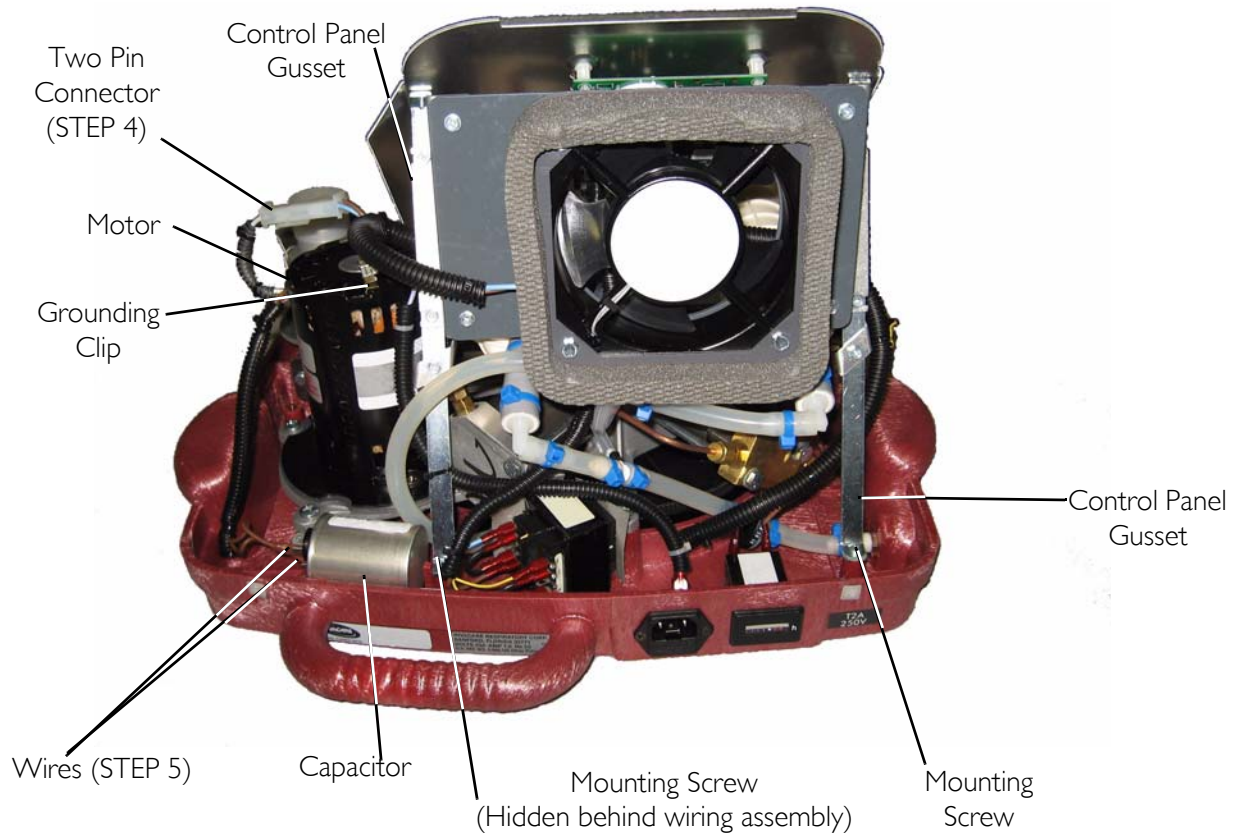
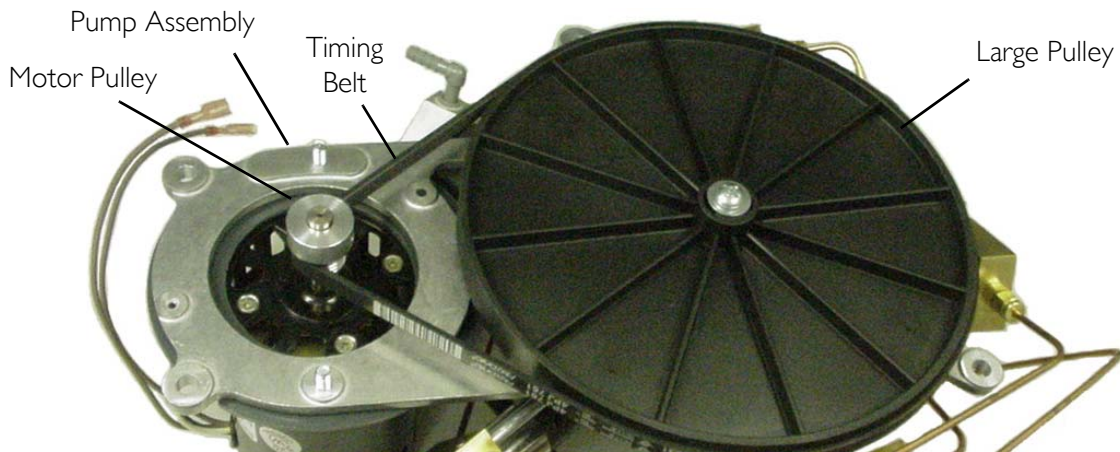

FIGURE 12.1 Timing Belt Replacement
FIGURE 12.6 Timing Belt Replacement
NOTE: For this procedure, refer to FIGURE 12.1 through FIGURE 12.6.
5. Disconnect the two pin connector that connects the motor to the wiring harness (FIGURE 12.1).
6. Using needle nose pliers, disconnect the two wires from the capacitor (FIGURE 12.1).
7. Using needle nose pliers, disconnect the grounding clip from the motor (FIGURE 12.1).
11. Remove the two screws that secure the control panel gussets to the rear of the base assembly (FIGURE 12.1).
25. Remove the timing belt by gently pulling the belt away from the large pulley and motor pulley (FIGURE 12.6).
1. Install new belt over the large pulley and the small motor pulley. Refer to Detail "A" in FIGURE 12.6.
14. Secure the control panel gussets to the rear of the base assembly with two mounting screws (FIGURE 12.1).
18. Connect the grounding clip to the motor (FIGURE 12.1).
19. Connect the two wires to the capacitor (FIGURE 12.1).
20. Connect the two pin connector that connects the motor to the wiring harness (FIGURE 12.1).